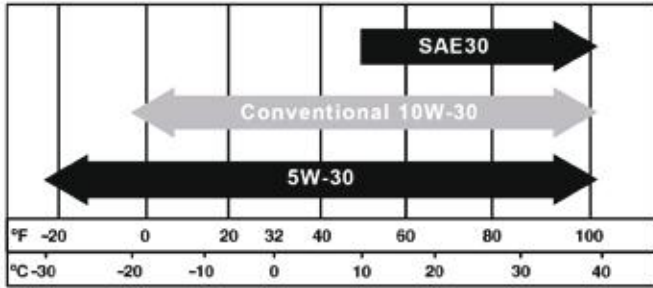

Figure 12 - Recommended Oil
1. Only use the engine oil specified in Figure 12.
6. Select the proper engine oil as specified in Figure 12.